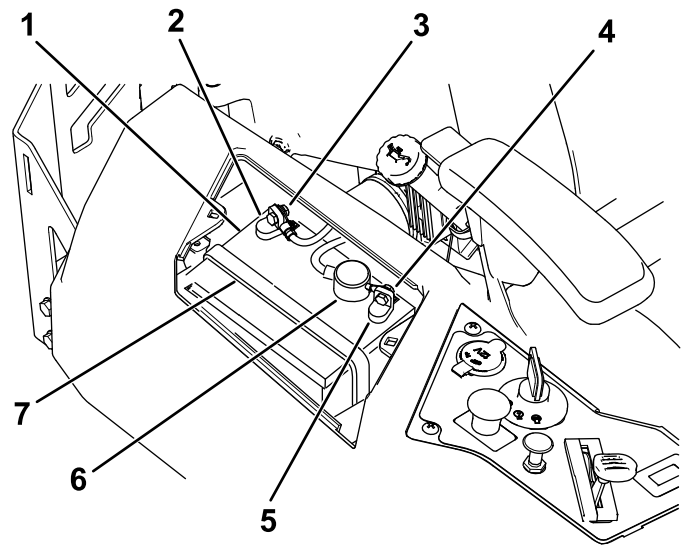

Figure 45
- Disconnect the negative (black) ground cable from the battery post (Figure 45).
- Disconnect the positive (red) cable from the battery post (Figure 45).
- Remove the battery hold-down (Figure 45), and lift the battery from the battery tray.
1. Position the battery in the tray (Figure 45).
5. Secure the battery with the hold-down (Figure 45).